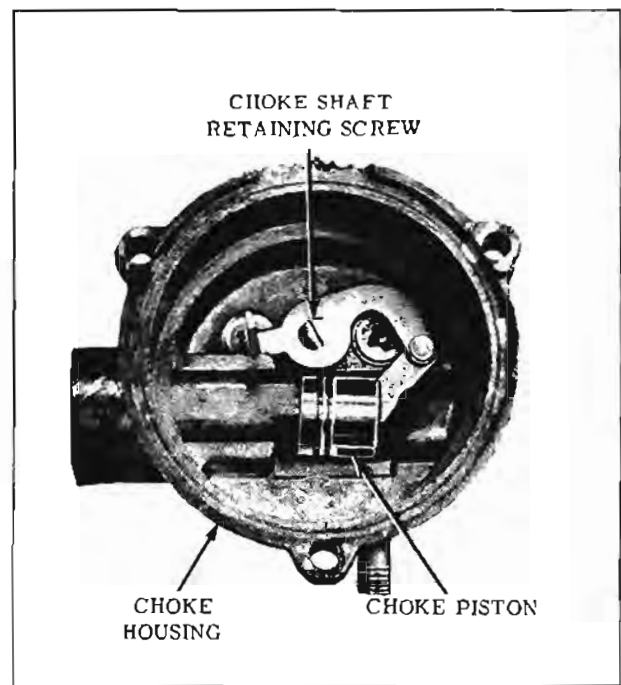

Fig. 9-148 Choke Piston Removal
6. Remove retaining screw at the end of choke shaft in choke housing and remove choke piston assembly. (Fig. 9-148)